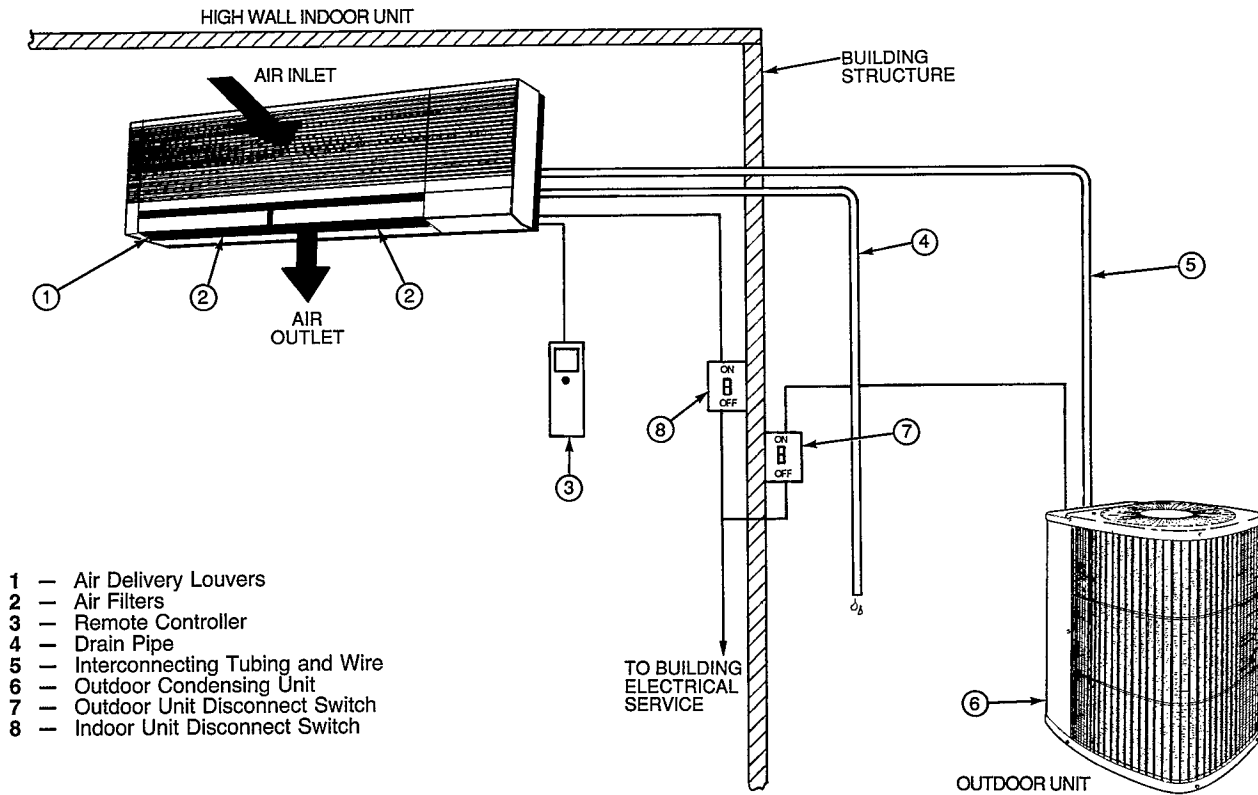

Fig. 1A — Component Location (Typical High Wall System)
NOTE: Refer to Fig. 1A or 1B for item/component locations.
NOTE: When the air delivery louvers (see Fig. 1A or 1B) are in automatic air sweep mode, you will hear a slight hum from the auto sweep motor.
⚠ CAUTION: To avoid the possibility of electric shock, before performing any cleaning and maintenance operations always turn off power to the system by pressing the green on/off button on the remote controller, and turning off the outdoor unit disconnect switch located near the outdoor unit (see Fig. 1A and 1B). If the indoor unit is on a separate switch, be sure it is also disconnected.
If the system has been turned off for more than 12 hours, turn on the indoor and outdoor unit disconnect switches (see Fig. 1A or 1B) to supply power to the system for 12 hours BEFORE starting the system.
4. Turn on the indoor and outdoor unit disconnect switches (see Fig. 1A or 1B) to supply power to the system for 12 hours before starting the system.